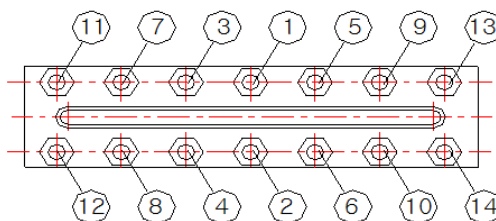

Figure 1.
Carry out bolting in accordance with Figure 1.
- 4.2 After warming up, close upper valve(A) and carry out bolting in the sequence shown in the Figure 1.
- 9.5 Screw up all Washer & Nuts⑦,⑧ in accordance with the sequence for tightening Gauge Cover Bolts (Figure 1).